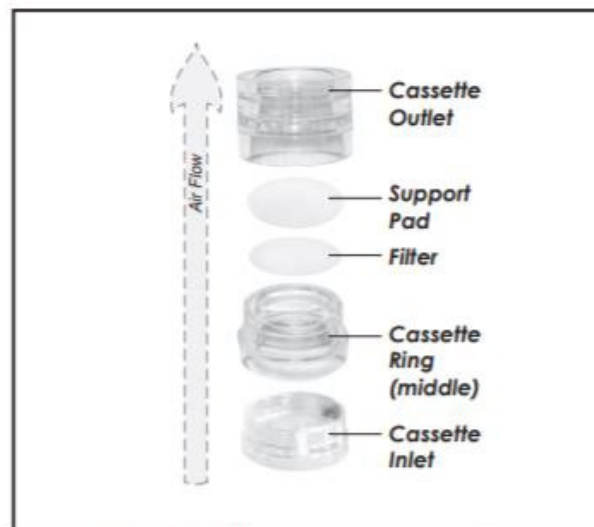

Figure 1. Filter cassette assembly
1. Preparing the Filter Cassette — Figure 1